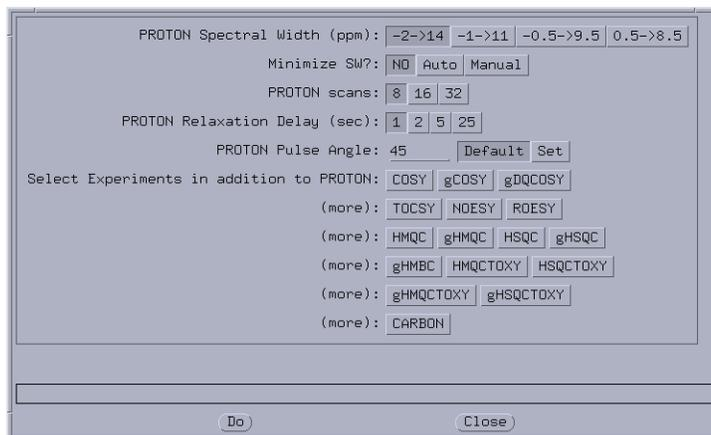

Figure 8. Experiment Selection Window for Gradient Experiments
- If you have a gradient probe (and the gradient field in the probe definition file is set to *Y*) the Experiment Selection window shown in Figure 8 is displayed.